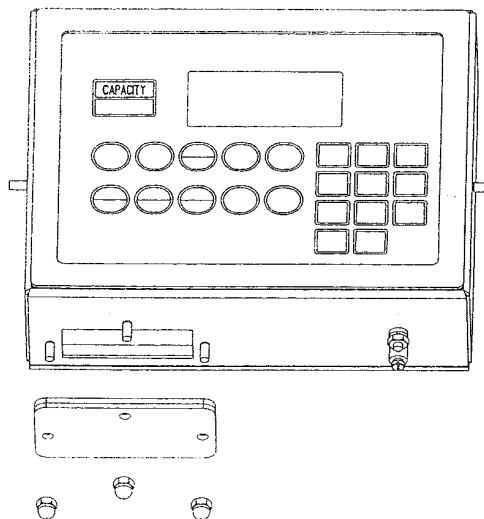

Figure No. 11
The 205/210 indicators can operate from a readily available Sealed Lead-Acid Camcorder type battery (*not included*). If you wish to operate the indicator from a battery, you must first obtain and install a CAM-350 Type, 12 volt, 2000 mAh (2.0 Ah) battery before operation can begin. The battery is contained inside the instrument and is easy to install. Access is via a removable panel on the bottom of the indicator (See Figure No. 11). The battery can be purchased from the Cardinal Scale Parts Department (p/n 6800-0018) or ordered from the following companies online:
2. Referring to Figure No. 11, remove the three acorn nuts securing the Battery Access Cover to the bottom of the indicator, then remove the cover exposing the battery access opening.
2. Referring to Figure No. 11, remove the three acorn nuts securing the Battery Access Cover to the bottom of the indicator.